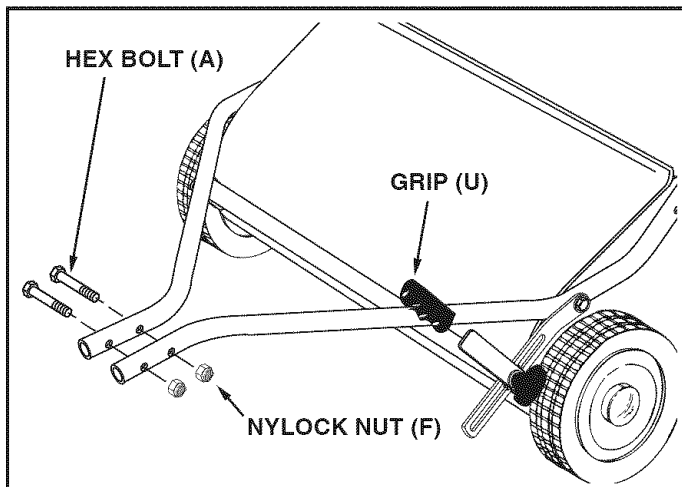

FIGURE 5
- Fasten the hitch tubes together using two hex bolts (A) and nylock nuts (F). See figure 5. **Do not tighten yet.**
- Assemble the grip (U) onto the end of the height adjustment handle as shown in figure 5.